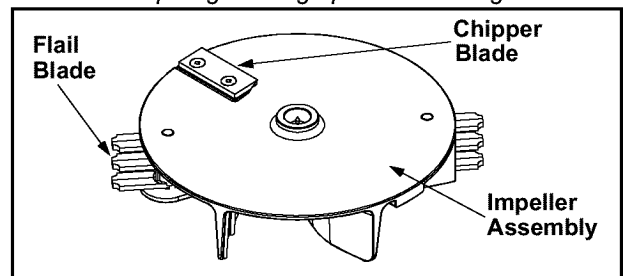

Figure 17
**NOTE:** Make certain chipper blade is reassembled with the sharp edge facing upward. See Figure 17.